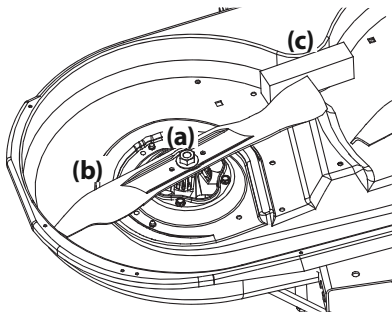

Figure 46
2. Use a $1\frac{5}{16}$ " wrench to hold the hex nut on top of the spindle assembly when loosening the hex nut (a) securing the blade (b). A block of wood (c) may be placed between the deck housing and the cutting edge of the blade (b) to help in breaking loose the hex nut (a) securing the blade. See Figure 46.